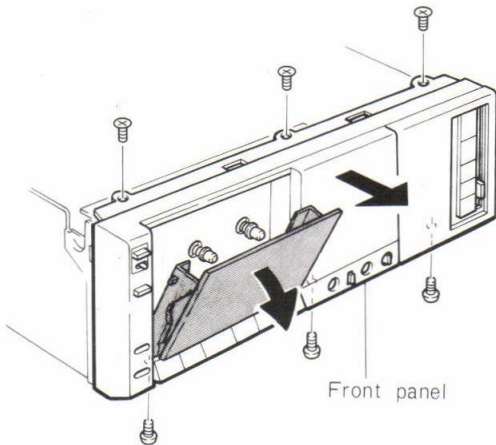

Fig. 2
- 1) Remove the 6 screws to detach the front panel in the direction of the arrow. (See Figure 2)